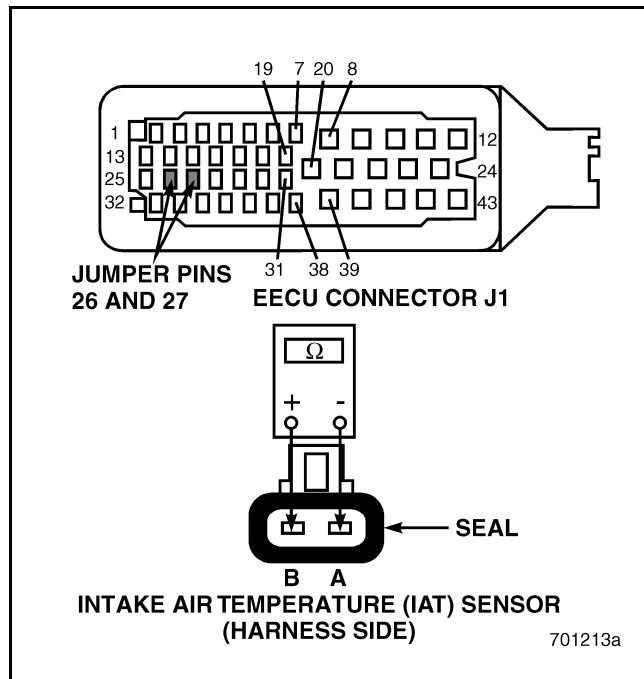

Figure 196
4. Connect a jumper wire between EECU harness connector J1 pins 26 and 27 (see Figure 196).